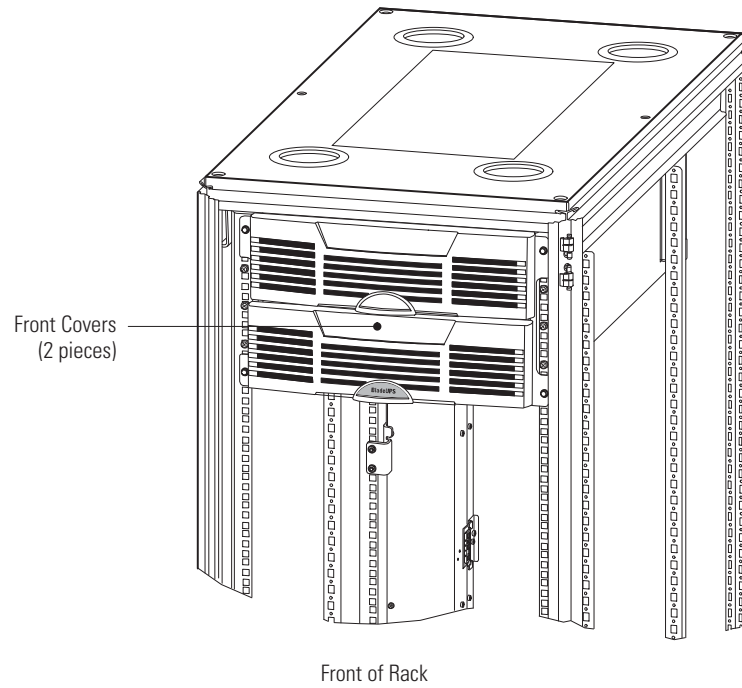

Figure 21. Front Cover Installation
25. Snap the two front covers into place, as shown in Figure 21.